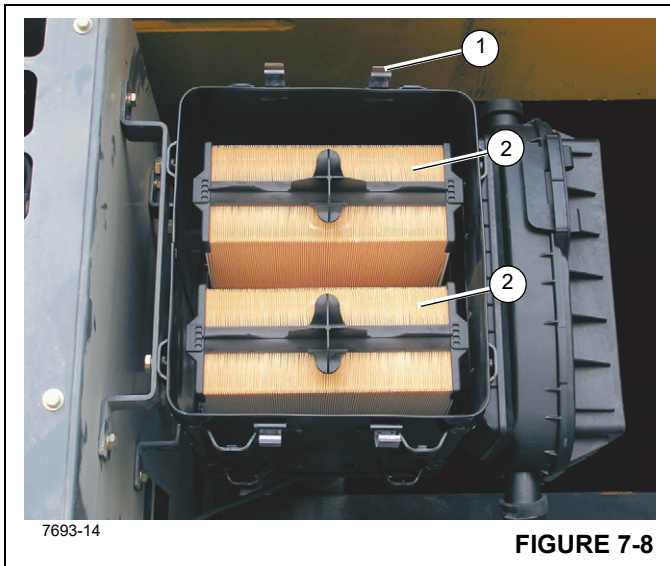

FIGURE 7-8
2. Lift the clips (1, Figure 7-8) securing the cover to the air cleaner body and remove the cover.